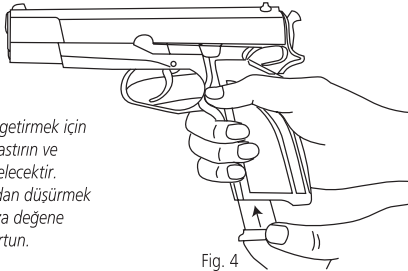

Fig. 4
3. Take the loaded magazine and place it in the grip until it is engaged with magazine catch. Now the pistol is loaded. (Fig. 4)
3. Dolu şarjörü kabzenin içine kilitleme sesi gelinceye kadar sokun. Arık tabanca doludur. (Fig. 4)